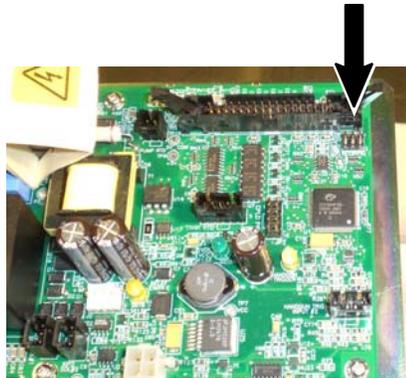

Figure 5-14 120-ohm nickel melter—no jumpers installed
**NOTE:** For 120-ohm nickel melters, temperature sensor jumpers are not required in this location, as shown in Figure 5-14.